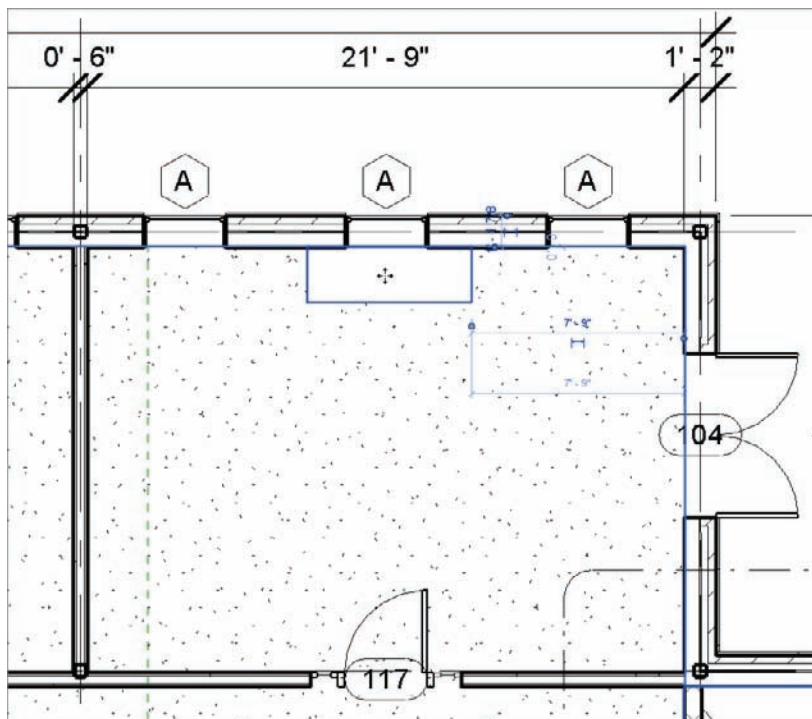

FIGURE 9.52 Placing the credenza desk into the first office
2. Zoom in to the northeast corner office, as shown in Figure 9.52.
6. Place the credenza desk into the room, as shown near the top of Figure 9.52.